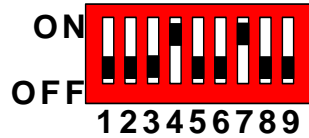

FIGURE 1. INITIAL DIP SWITCH SETTINGS
Step 1: Switch on bit 4 and bit 7 of the Dip-switch. Leave all other bits off; see Figure 1.